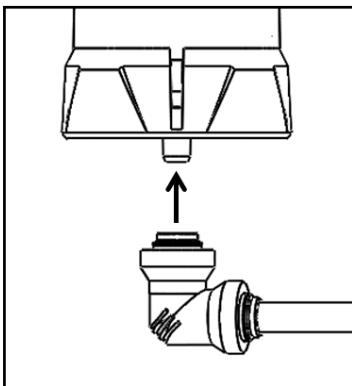
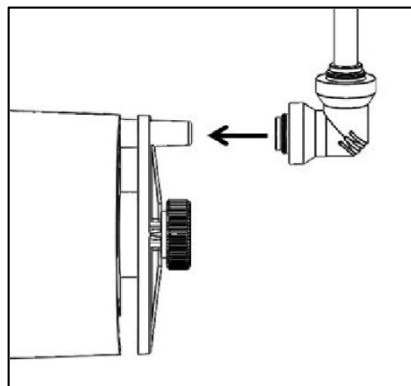
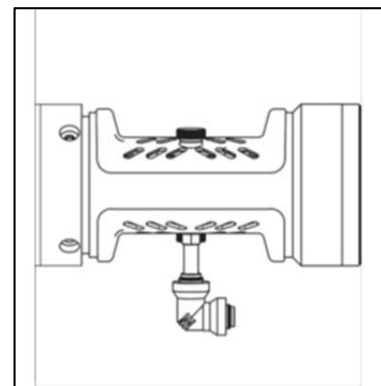

Figure 17 Digital sensor tubing connection
Figure 18 XIR Plus tubing connection
Figure 19 IR400 tubing connection
- (7) If using a digital sensor, attach the tubing elbow to the sensor guard as shown in Figure 17. If using an XIR Plus sensor, attach the tubing to the sensor as shown in Figure 18. For S5000, if using a passive sensor, do not use the tubing. If using an IR400 sensor with S5000, attach the tubing elbow to the sensor as shown in Figure 19.